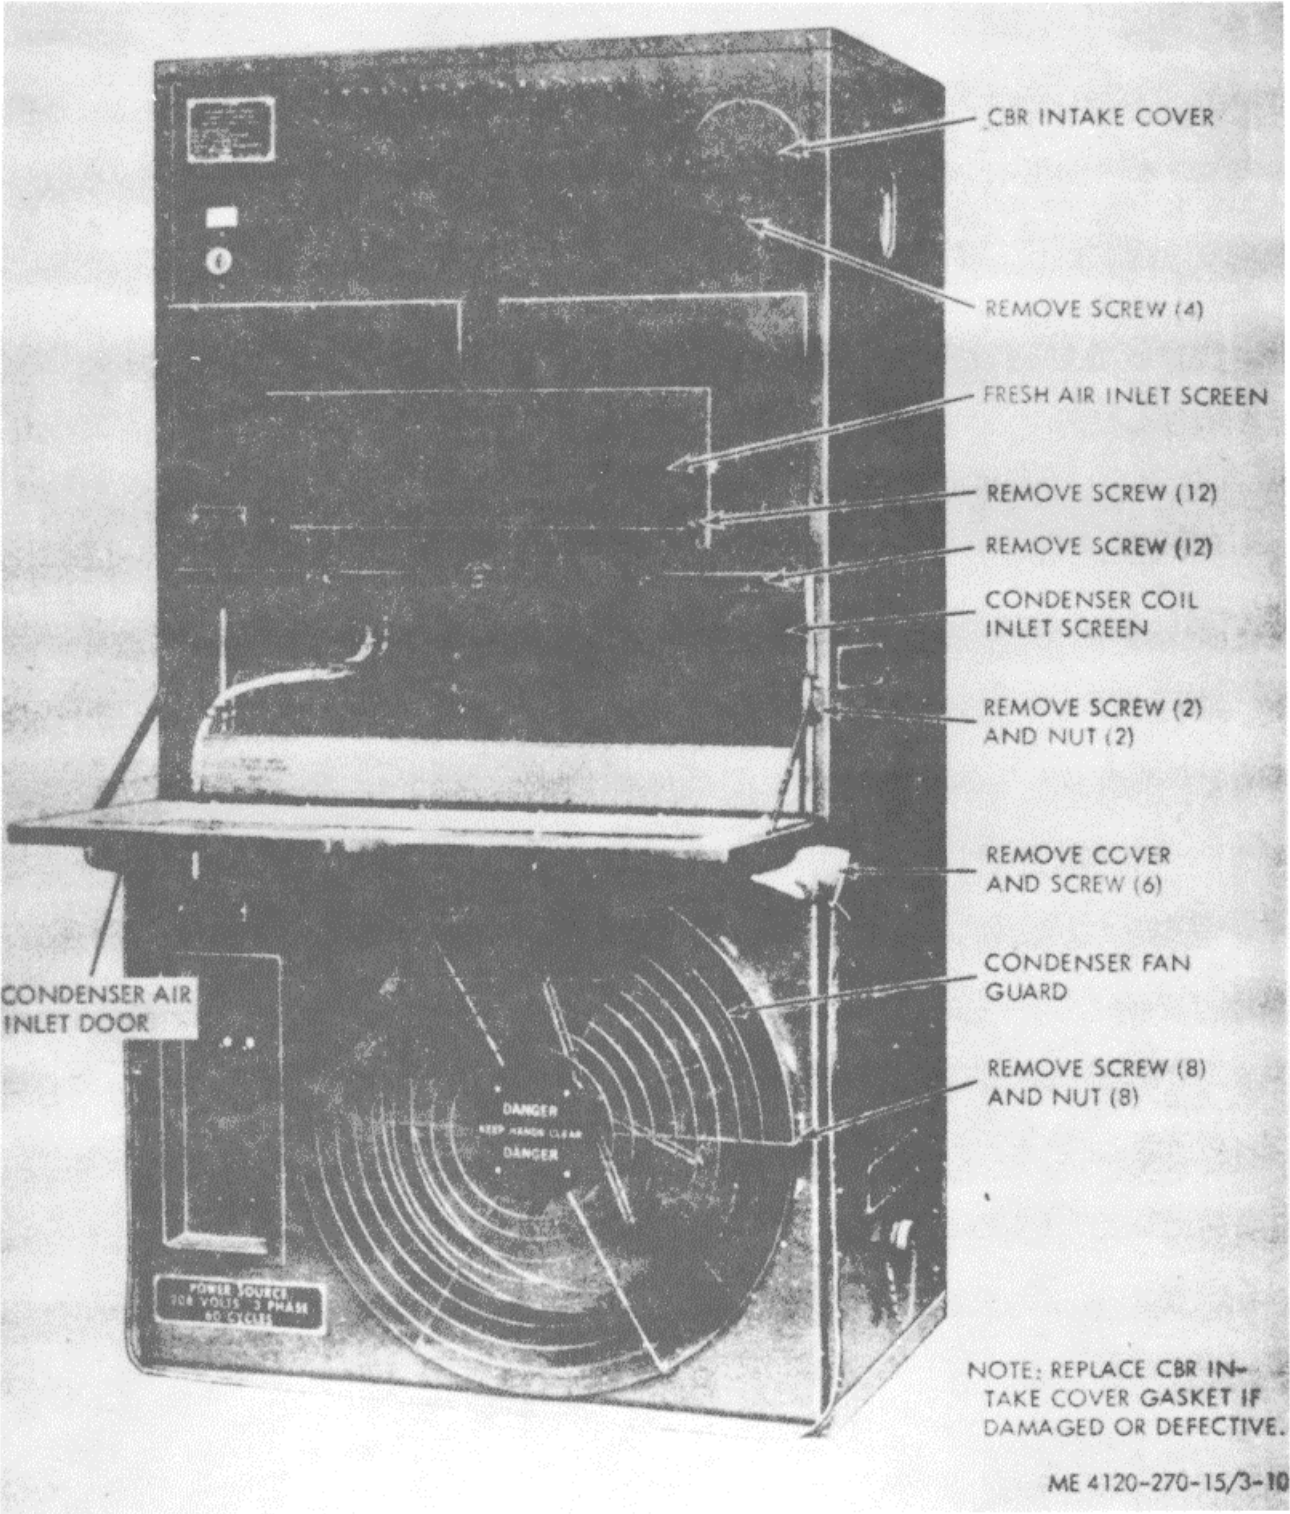

Figure 3-10. Fresh air inlet screen, CBR cover, fan guard, and condenser coil inlet door and screen, removal and installation.
- a. Removal. Refer to figure 3-10, and remove the fresh air inlet screen, CBR cover, fan guard, and condenser coil inlet door and screen.
- b. Installation. Install the fresh air inlet screen, CBR cover, fan guard, and condenser coil inlet door and screen in reverse order of removal as illustrated in figure 3-10.